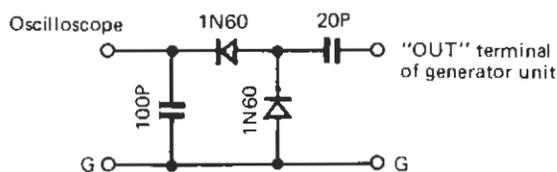

Fig. 7
- 2) BPF detector (see Fig. 7)